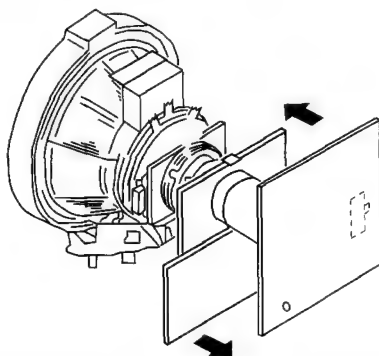

Fig. 3-1
4. Move the deflection yoke forward and adjust with the purity control so that the red is at the centre and the blue and the green take up equally sized areas on each side. (See Fig. 3-1 - 3-3)
5. Move the deflection yoke forward and adjust so that the entire screen becomes red. (See Fig. 3-1)